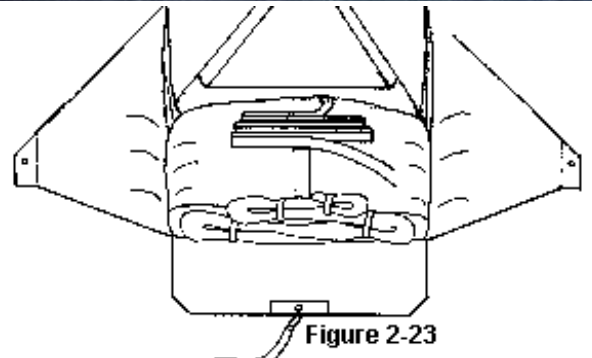

Figure 2-23
Step 27 Thread the pullup cord through the closing loop. Arrange the bridle in folds six to eight inches long, and lay the folded bridle across the upper part of the bag as shown in *Figure 2-23*. Be sure **NOT** to tuck these folds down between the bag and the bottom of the reserve container. To do so may retard the action of the pilot chute.